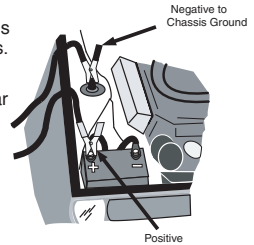

Figure 1
- Determine which post of battery is grounded (connected) to the chassis. If the negative post is grounded to the chassis (as in most vehicles), see Figure 1 and instruction 5a. If the positive post is grounded to the chassis, see instruction 5b.